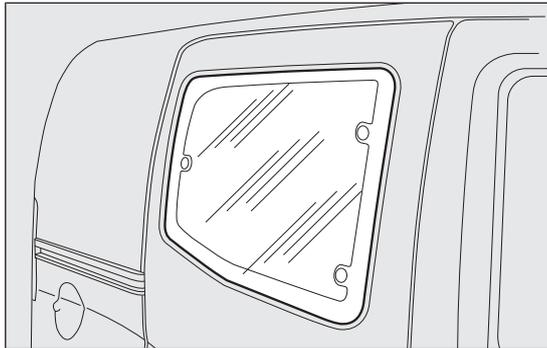
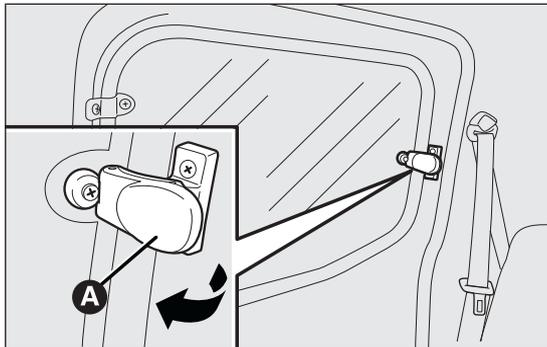

fig. 54
fig. 55
To open, proceed as follows fig. 54 fig. 55:
- move the lever A fig. 55 outwards until the window fully opens.